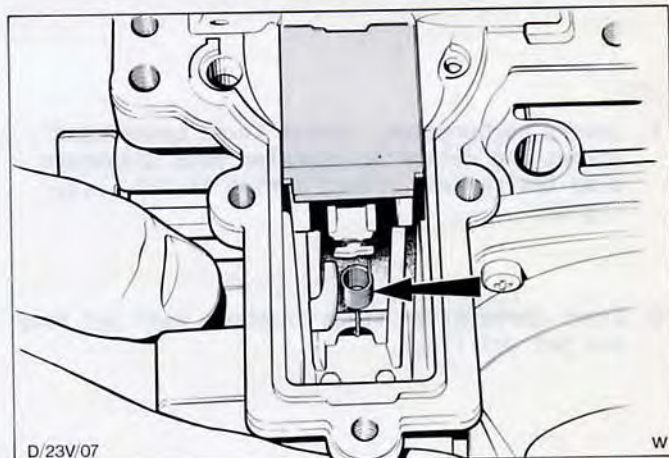

Fig.55. Metering rod bias spring correctly positioned on air valve.
13. Ensure that metering rod bias spring is correctly installed to air valve, Fig.55.